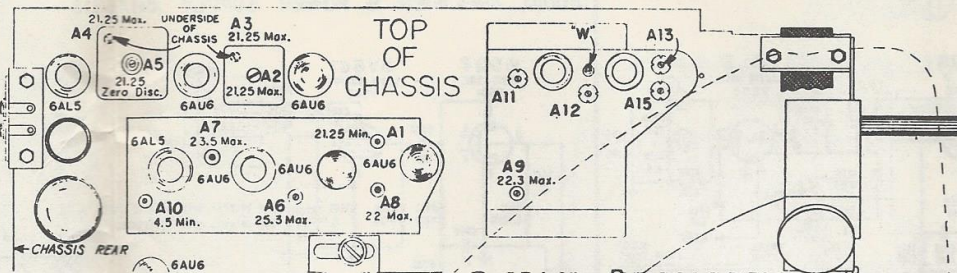

Figure 27. Alignment Locations and Frequencies, with late production Video IF strip.
- Connect oscilloscope through 10,000 ohm resistor to point "W" (figure 27). Keep oscilloscope leads away from chassis.